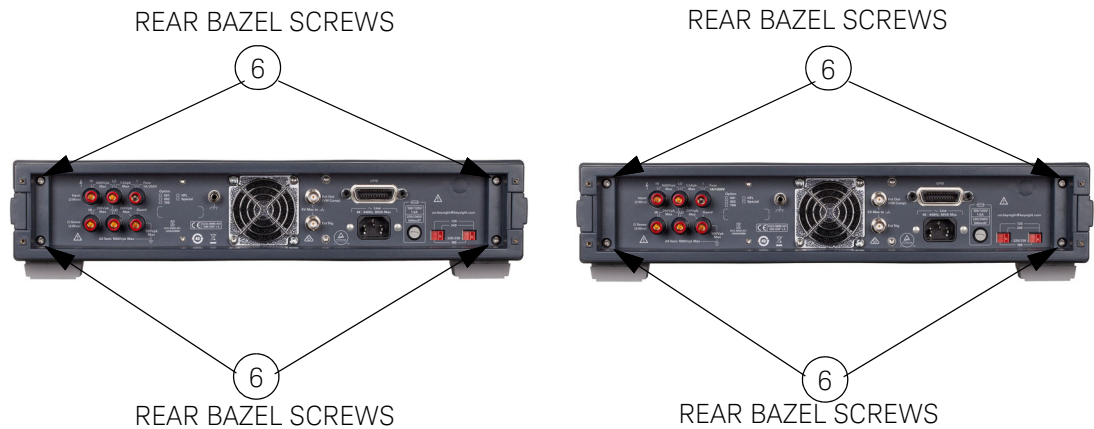

Figure C-4 3458A rear view
- 8 Refer to Figure C-4. Turn the instrument so its back faces you.
- 5 Refer to Figure C-4. Turn the instrument so its back faces you.